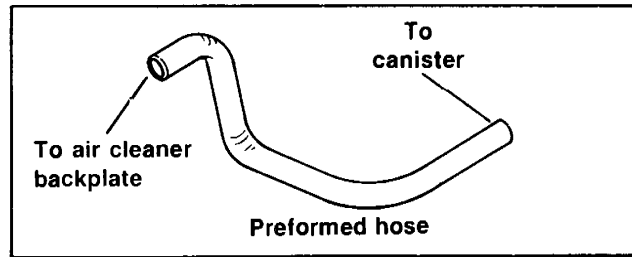

Figure 4-58. Preformed Hose Connections
3. Take 0.235 I.D. hose (8) and push hose through center cavity under fuel tank. Bring hose around rear of carburetor, between throttle cables and on to purge fitting. Bring free end of hose down right frame tube to fitting on top of canister labeled "carb". Cut hose to length and push hose on fitting. Secure hose to frame with two ty-wraps.
4. See Figure 4-58. Take large diameter pre-formed hose and push end with short bend over fitting installed at front of air cleaner backplate. Secure with ty-wrap. Route hose outside push rod cover and down to canister. Connect end of hose with long leg to the fitting at bottom of canister. Secure hose to canister with ty-wrap. Do not cut hose. Be sure regulator wires do not contact hose or canister. Bottom canister fitting should not swivel.